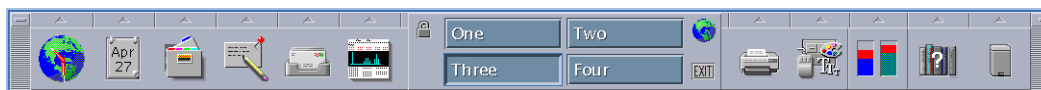

Figure 75. CDE Front Panel
3. Click the file drawer icon in the CDE Front Panel (Figure 75).